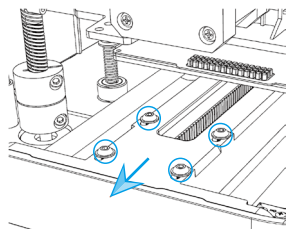

Figure 10
06. Check the belt. If the X-axis or Y-axis belt is too loose, you can adjust the belt tension by moving the X-axis motor or Y-axis motor. First loosen the screws that fix the motor, move the motor to tighten the belt, and then tighten the screws, as shown in Figures 10 and 11 below.